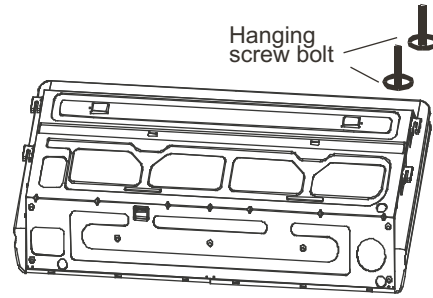

Fig. 5-15
- For some of the models 60 please securely tighten the mounting bolts on both sides. (Refer to Fig. 5-15).